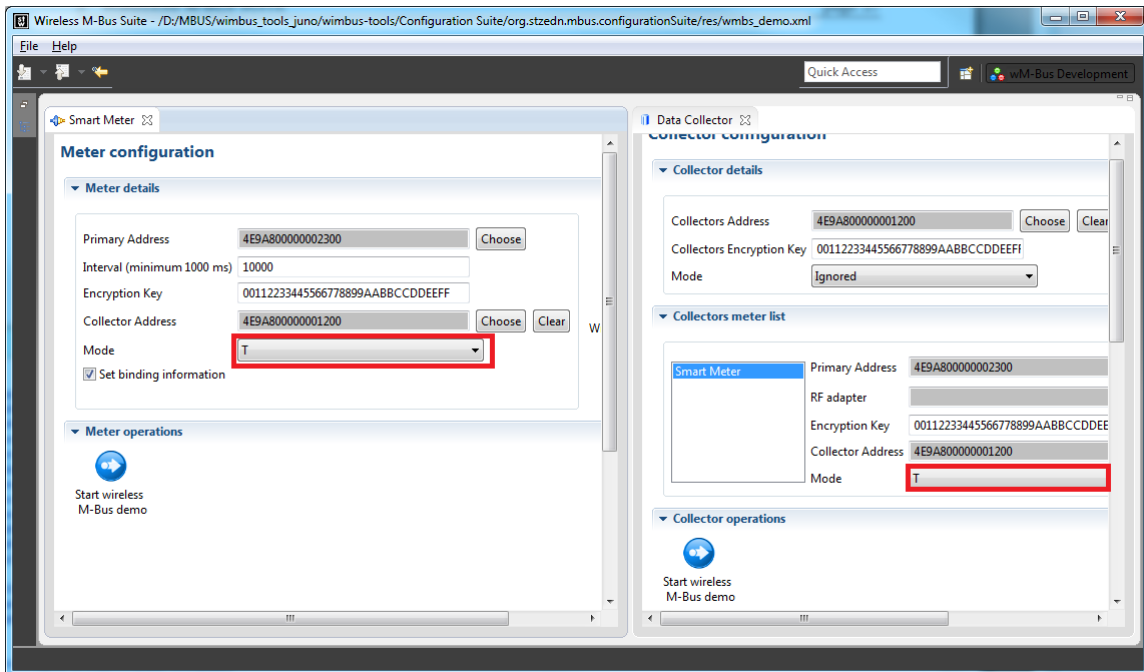

Figure 38: Collector C and Meter T
The selection box can be ignored for modes S and T, as well as for a mode C meter device. If a C collector shall be used with a T meter, please set the meter to mode T ( as shown in figure 38). The reason is that the collector needs the information of the supported channels of the meter. Otherwise the collector will only be able to receive packets of the meter (RX), but is not able to send packets to the meter (TX).